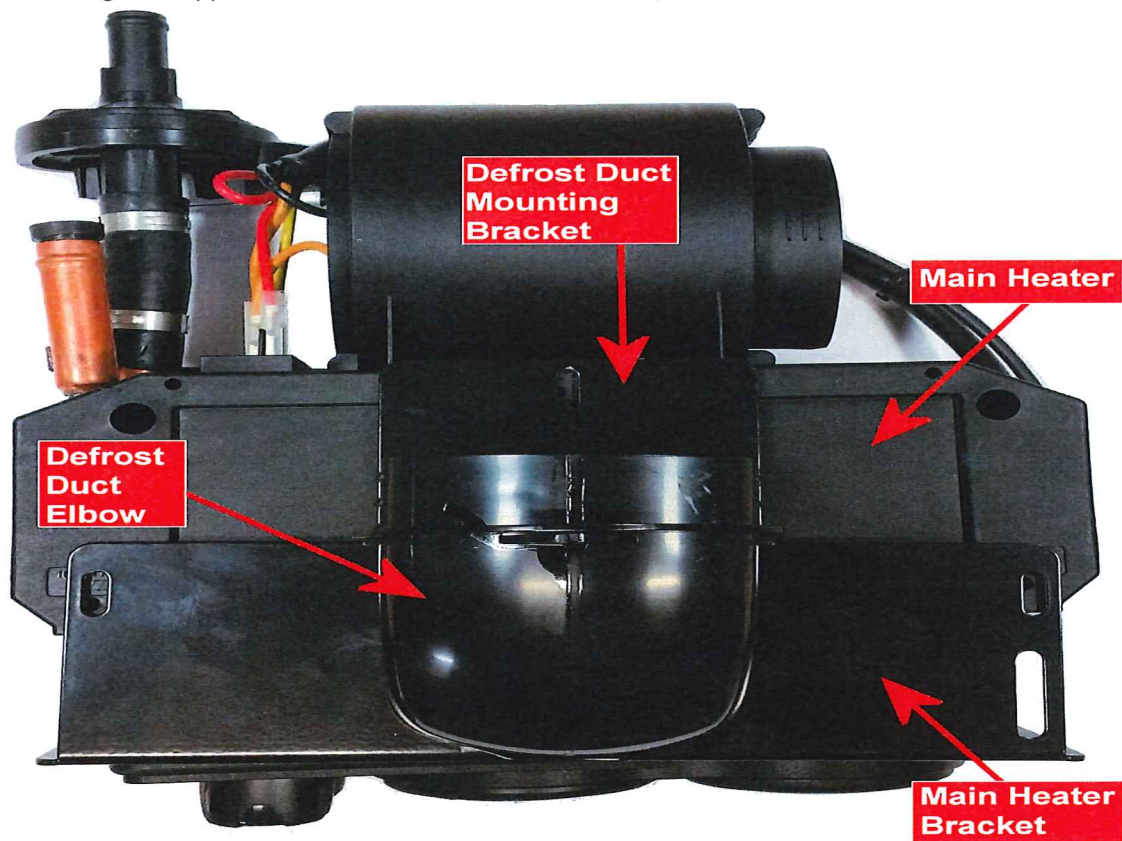

Figure 6
22. Install the Main Heater Mounting Bracket, as shown in Figure 6, around the Compact Heater Unit (do **NOT** insert screws at this time).
24. Using a supplied Screw for Plastic, attach the Defrost Duct Mounting Bracket to the Main Heater Mounting Bracket. The oval hole in the defrost duct bracket should fit over the duct elbow and rest flush with the plastic flanges as shown in Figure 6.